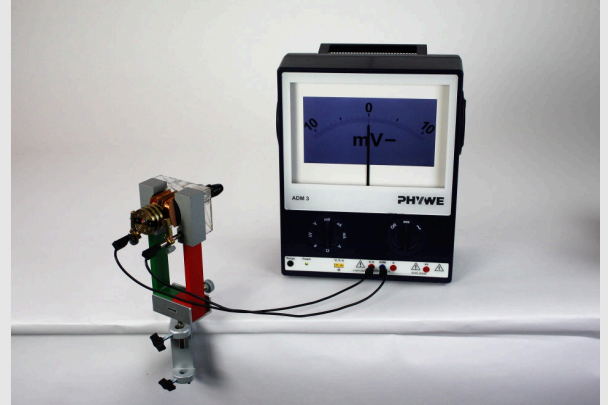

Fig. 4
- Select the AC voltage measuring range 3 V~ (Fig. 4).